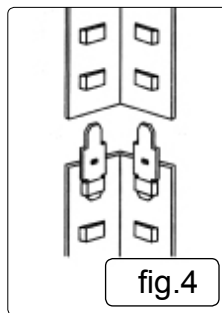

fig.4
- 5.4. Decide the shelf positions for the upper section of the shelves and assemble two more end frames, each using 2 leg angle sections and 3 short shelf supports ensuring that the shelf supports are at the same height on both frames. The upper half can be joined to the lower half by using the lower shelf supports as shown in fig.3. If the lower shelf is not positioned at the centre of the frame use the special joining pieces supplied as shown in fig.4.